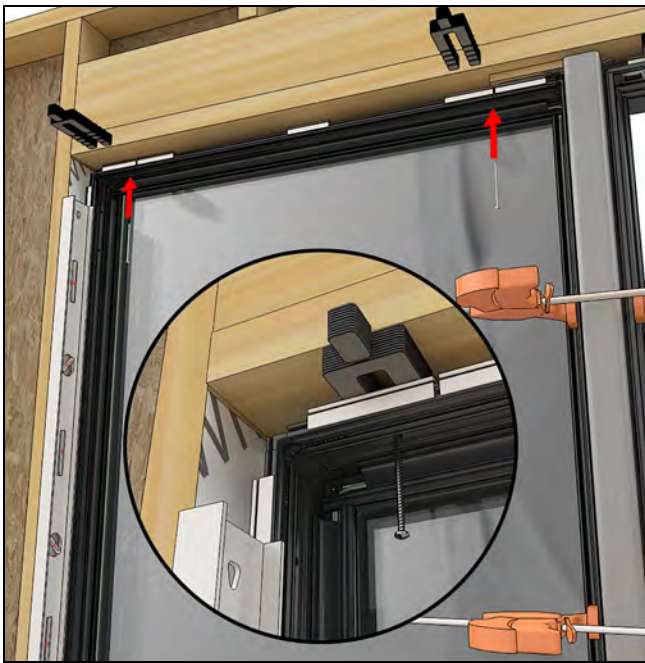

Figure 235
17. Making sure the second frame is aligned along the correct exterior plane, shim and fasten the head jamb through the pre-drilled holes in the frame. See Figure 235.